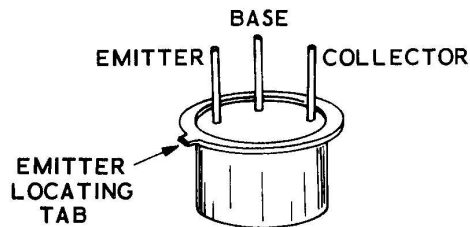

Figure 1K
- ( ) Connect the black lead to the base wire and connect the red lead of the ohmmeter to collector wire of one of the transistors (see Figure 1K). Note the resistance reading; it should read about 500,000 Ω (too high a resistance to be read on the EK-1 meter).